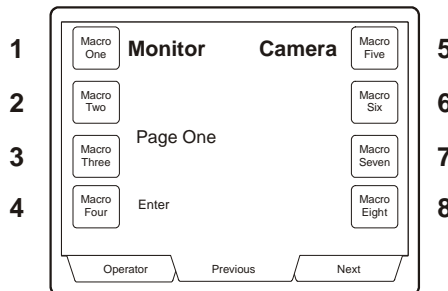

Figure 4.4: Macro Icon Reference Numbers
5. The eight macro icons are referenced by the configure macro menu by the numbers 1 to 8—see figure 4.4. Enter the number corresponding to the icon to be programmed (1 - 8) and press the KEY ID soft key.